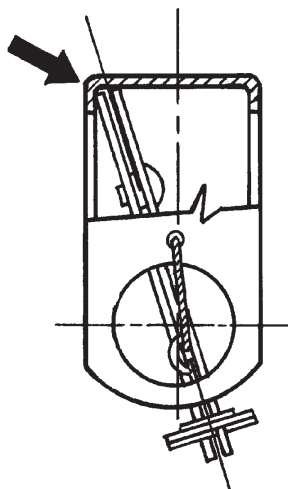

FIGURE 30a
- ▶ 9. Install the linkage and the correct ANSUL approved fusible link in the remainder of the detector brackets. Make certain all detector linkages are positioned against either the front or back upper lip of the formed detector bracket. See Figure 30a.